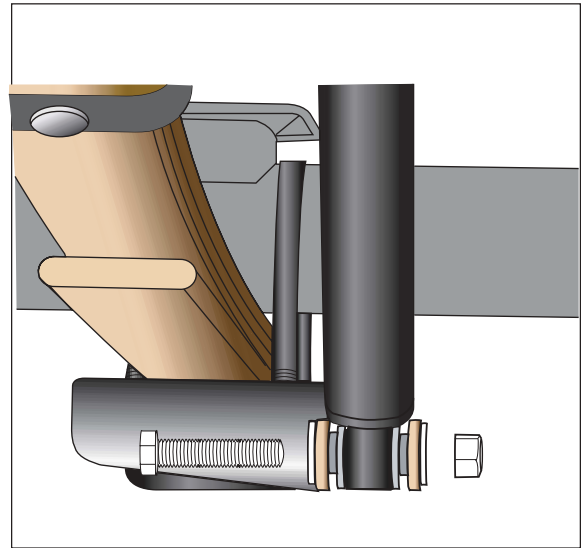

Figure 3
1. Remove and reverse the lower shock bolts so the bolts are inserted from the outside in (Figure 3).